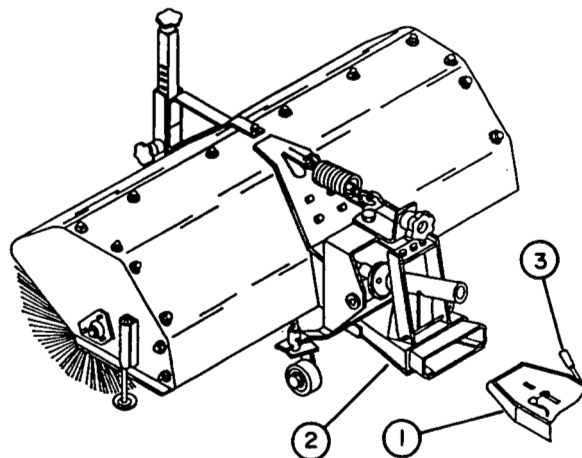

FIGURE 3
- b) Insert male quick hitch (fig.3, item 1) into broom female hitch (fig.3, item 2) and place male quick hitch lever (fig.3, item 3) fully **forward** in "locked" position. Secure male quick hitch latch with the linchpin,